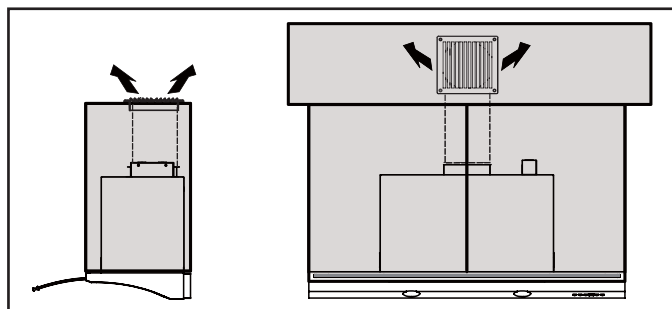

Fig.11
4. In order to recirculate the air properly, a return air vent must be installed to allow recycled air to be returned to the kitchen, Fig. 11. Ducting must be run from the blower to the return air vent. The return air vent can be positioned on top of the cabinet or in a soffit/ceiling.